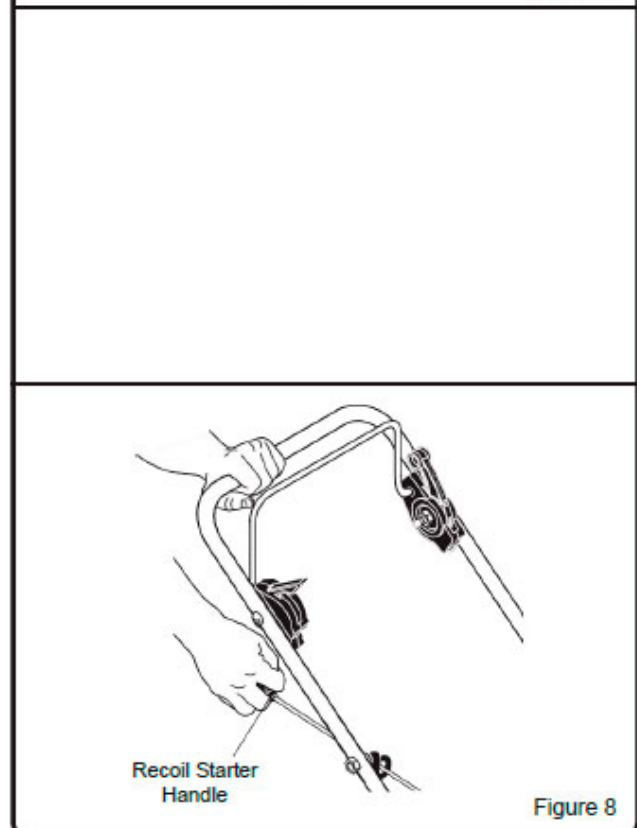

Figure 8
3. Grasp the starter handle firmly with your right hand (see Figure 8).